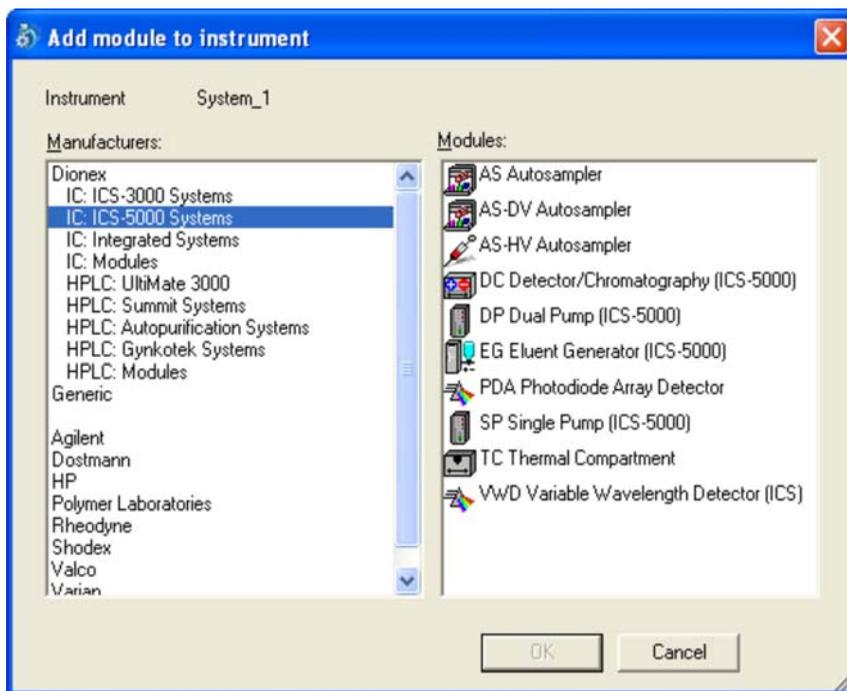

Figure B-14. Adding the Dionex VWD to an Instrument
7. Under **Modules**, select **VWD Variable Wavelength Detector (ICS)** (see Figure B-14) and click **OK**.